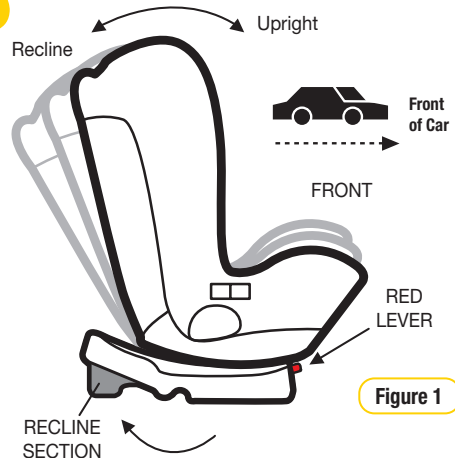

Figure 1
Step 1: Ensure the recline section is swung rearward (see Figure 1).